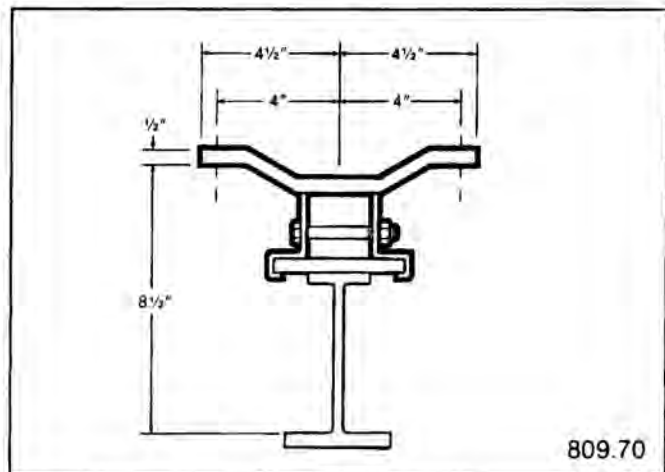

FIGURE 31
- 809.70 (Refer to Figure 31): For 4-wire (2-run) dual conductor bottom-entry electrification at 8½" above operating flange surface of 603.7 *SuperTrack™*.